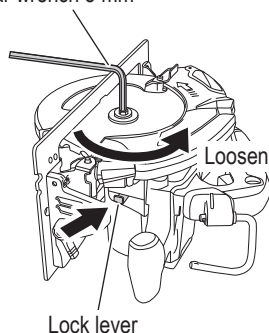

Fig. 14
- (1) Depress the lock lever, lock the spindle, and remove the hexagonal flange bolt and washer (B) with the hex. bar wrench 5 mm (Fig. 14)